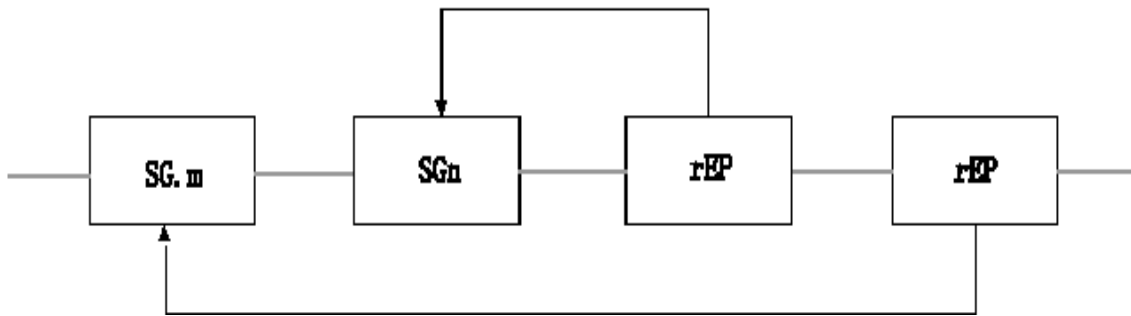

Fig.2.4.1:Nesting of a Repeat Command
(2) You cannot preset the nesting of a repeat command, which means to insert a repeat command into the existing repeat command, as shown in Fig. 2.4.1. It is also impossible, as shown in Fig. 2.4.2, to preset a repeat command across the existing repeat command.